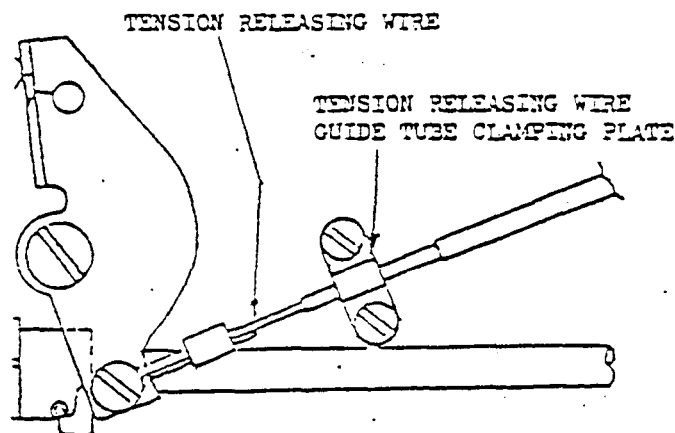

Fig. 29
2. Loosen the two screws holding the tension releasing wire guide tube clamping plate and move guide tube to the left or right as required and firmly tighten the screws. (Fig. 29)